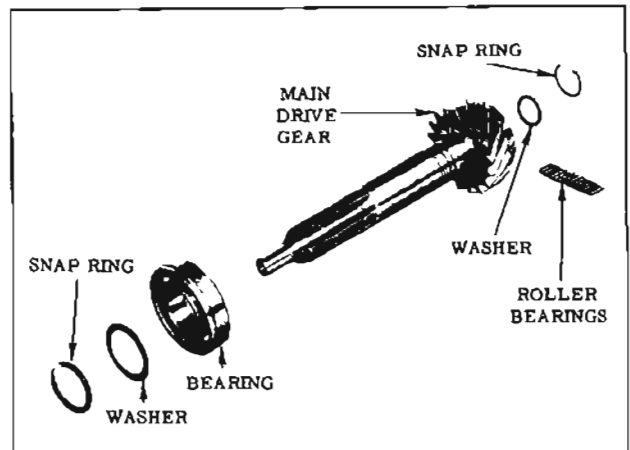

Fig. 7-21 Main Drive Gear Assembly
1. Remove the retaining ring and washer holding the main drive gear bearing to the main drive gear. (Fig. 7-21)